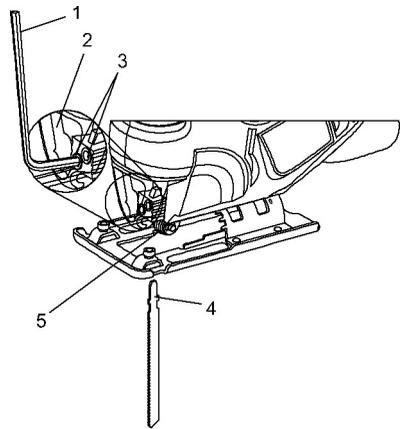

Fig. 1
2. Insert the hex key (1) through the access hole in the chip shield (2) (Fig. 1).
3. Loosen both blade clamp screws (3) and insert the saw blade (4) as far as possible into the slot in the blade clamp.